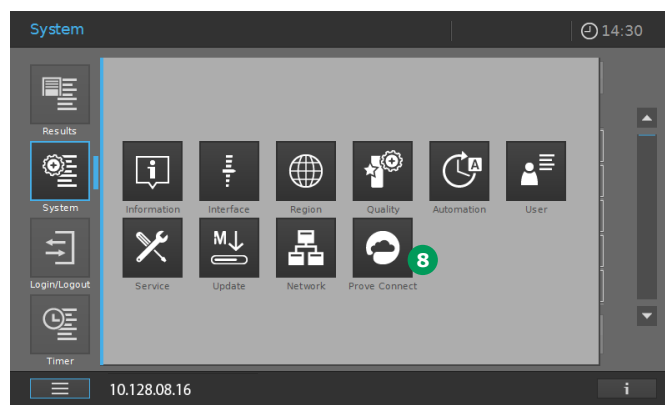

Figure 36 - Screen of Spectroquant® Prove / Prove plus after closing the "Network" window (Figure 35)
4. Enable Prove Connect in the Prove System menu **8** (Figure 36).